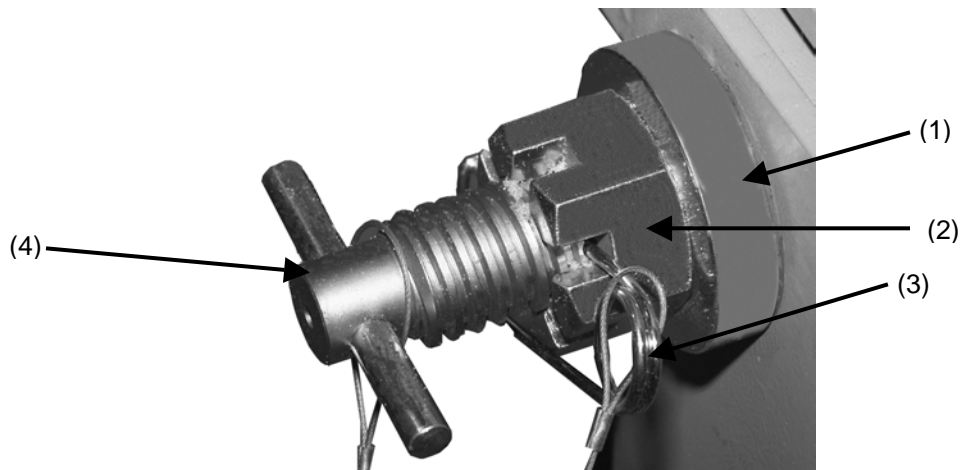

Figure 4-69. Block T-lock with locking pin inserted.
2. Remove locking pin (3) from block T-lock (Fig. 4-69).